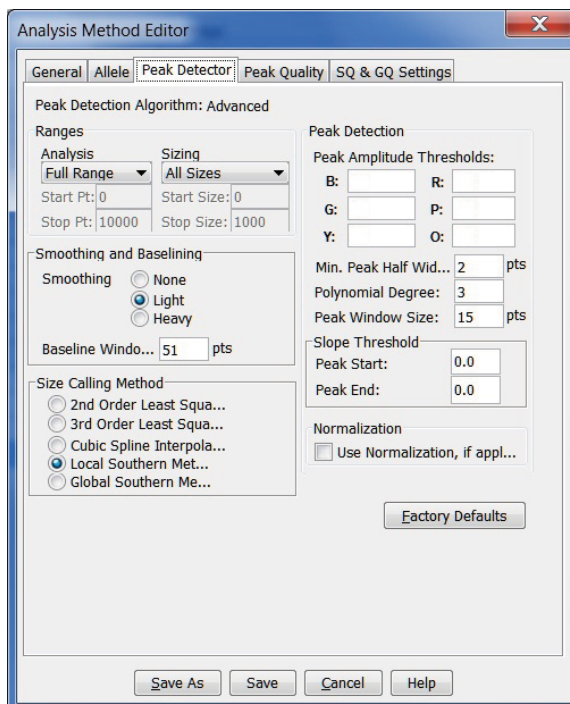

Figure 13. The GeneMapper® ID-X 'Peak Detector' tab.
9. Select the 'Peak Detector' tab (Figure 13). You will need to optimize these settings. In-house validation should be performed.
9. Select the ‘Peak Detector’ tab (Figure 13). You will need to optimize these settings. In-house validation should be performed.